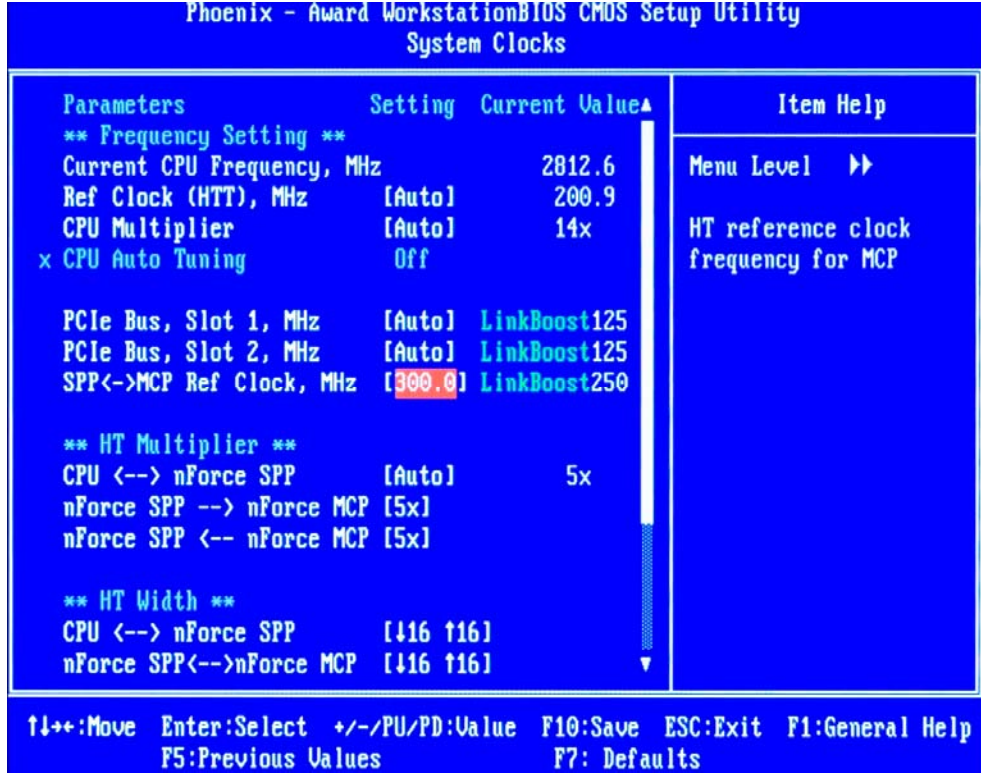

Figure 18. Adjusting MCP HTT Frequency in BIOS
- To change the frequency, adjust **SPP <-> MCP Ref Clock** setting in **System Clocks** BIOS menu as illustrated in Figure 18. Gradually increment MCP HTT clock to determine the highest passing value. MCP HTT clock can run at 300 MHz and higher.